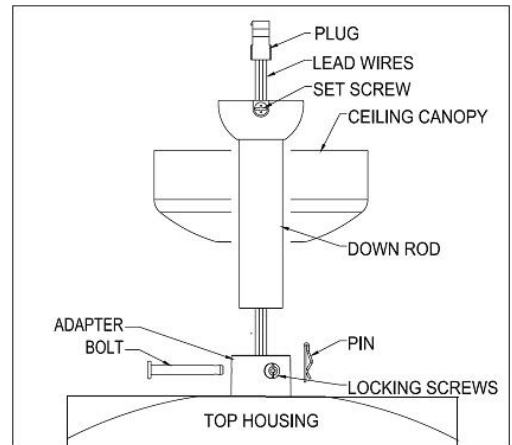

Fig. 4
4. Insert down rod to hanger (see Fig.4), line up hanger holes with down rod holes and insert bolt. Then insert pin to end of bolt.